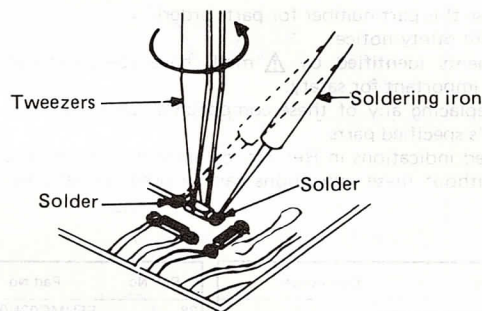

Fig. 24
2. Touch the soldering iron to the end of the chip as shown in Fig. 24, then turn the tweezers in the direction of the arrow.